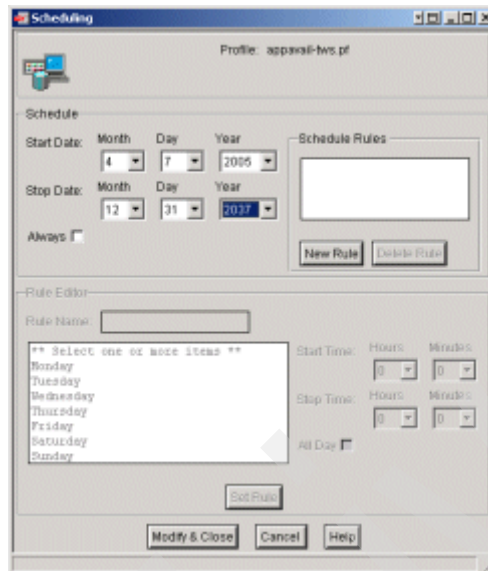

Figure 9-88 Setting schedule stop date
10. In the Schedule group, clear Always, and then set the Stop Date to the last day of 2037, as shown in Figure 9-88.